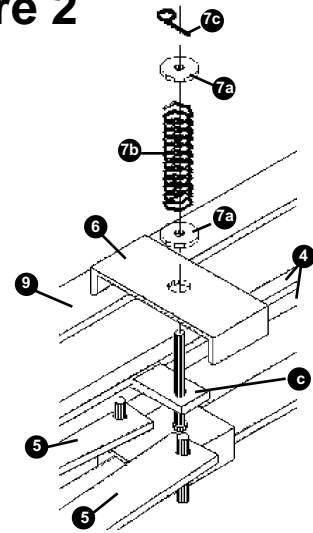

Figure 1
Pre-assembly: NOTES: *First and foremost, if the scale has not been previously equipped with crossbars, (① and ②), an ACCU-ARM Basket Top Closure Kit (FS-PSN210 or FS-PSW210) will need to be purchased before assembly of the Remote Gate Kit can be completed. Once the above conditions are met, proceed as instructed. If the scale arm assembly is mounted in the middle of the scale, the basket hanging link pins must be removed from the spade bolts ⑩. If crossbars or a Basket Top Closure Kit has been previously installed, then remove the center long crossbar ① from the scale weigh basket by loosening the center 5/16-in. hex nuts for later. If the scale is assembled with standard side-opening gates, (KS-PSN006 or KS-PSW006), remove them from the gate lock brackets. (Refer to Figure 1 for details.)*
1. Locate the two gate control slides ③. Install a gate control slide ③ onto each end of the middle long crossbar ①. Notice that the pins on the gate control slide should be pointed upward and that the longest pin must be positioned closest to the center of the scale. (Refer to Figure 1 and 2 for details.)
2. Install the two gate control rods ④ so that they rest directly upon the scale weigh basket with the handles protruding upward from each end of the scale. Also, be careful that the extended tabs ⑤ on each of the gate control rods ④ are located at opposite ends of the scale and are facing the interior of the scale basket. (Refer to Figure 1 for details.)
3. Install the middle, long crossbar ① with the two assembled gate control slides ③ onto the scale. As this is being done, carefully guide the longest clevis pin, located on each end of the gate control slides ③, through the hole of the extended tabs ⑤ located on the control rods ④. Secure the middle long crossbar with fasteners. Next, if needed install the remaining long crossbar ① and secure with fasteners. Once this is complete, install the short crossbar ② on top of the long crossbars ① and under the basket top ⑨. Secure with fasteners. Now install and tighten the center 5/16 x 7/8-in. bolt, two 3/8-in. spade bolts, lockwashers, and hex nuts that fasten the center long crossbar ① to the short crossbar ②. (Refer to Figure 1 for details.)
4. Attach each of the four gate links ⑤ to the gate control slides ③ by slipping the small hole in each gate link ⑤ over one of the mating pins located on each of the gate control slides ③. Notice that the gate control rods ④ may now lie on top of the gate links ⑤. (Refer to Figure 1, 2, and 3 for details.)
5. Now, place the gate rod control guides ⑥ over the gate control rods ④ and the gate control slide ③. Be careful that the longest clevis pin on each gate control slide ③ is inserted into the small hole of the gate rod control guide ⑥. (Refer to Figure 1 and 2 for details.)
6. Fasten the gate rod control guides ⑥ to the longest clevis pin on each gate control slide ③ with 1-each 1/4-in. flat washer ⑦a, spring ⑦b, 1/4-in. flat washer ⑦c, and a 3/32 x 3/4-in. cotter pin ⑦c combination. (Refer to Figure 1 and 2 for details.)
7. Install the four gate drop rods ⑩ into the side tubes of the remote-operated center-opening gates ⑧. Insert the gate into the gate lock brackets located on each end of the basket top ⑨. Place the 1-in. end hole on each gate link ⑤ onto the center extension tube of each center open gate ⑧. Place the vinyl handle caps ⑦d on each end of the gate control rod handles ④. (Refer to Figure 1 and 3 for details.)